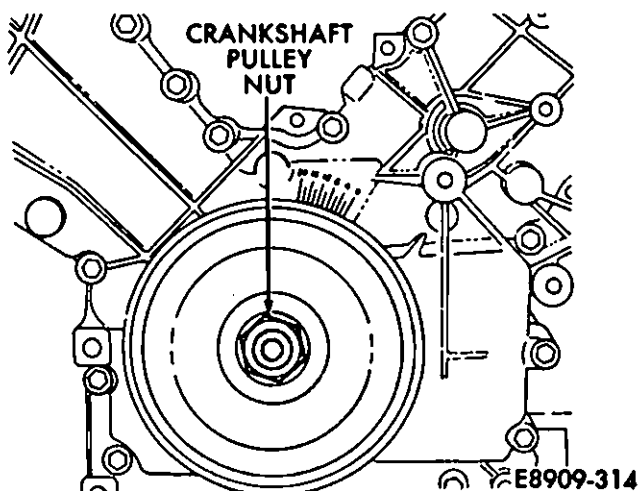

Fig. 9—Loctite 271 on Crankshaft Pulley Nut
(6) Install the crankshaft pulley. Apply Loctite 271 to the threads of the crankshaft pulley nut (Fig. 9). Tighten the nut to 180 N·m (133 ft-lbs) torque.